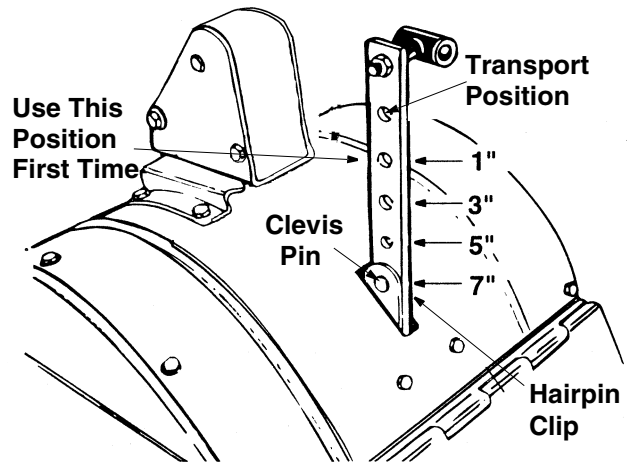
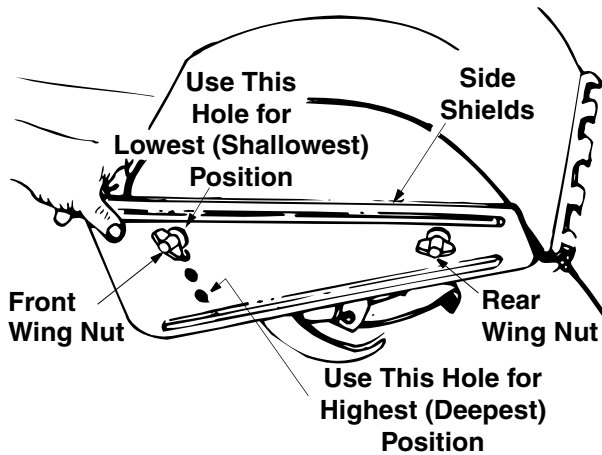

Figure 7
Figure 8
**WARNING:** When operating the tiller for the first time, use the depth stake setting that gives 1 inch of tilling depth (second hole from the top). See Figure 7.
Tilling depth is controlled by the depth stake which can be adjusted to five different settings. See Figure 7. Adjust the side shields as shown in Figure 8, as you adjust the depth stake. Be certain spark plug wire is disconnected and grounded against the engine.
- When using the tiller for the first time, use the second adjustment hole from the top (1" of tilling depth). See Figure 7.
- To adjust the depth stake, remove the clevis pin and hairpin clip. See Figure 7. Move the depth stake to the desired setting.
- To adjust the side shields, remove the front wing nut and loosen the rear wing nut. See Figure 8. Place side shield in position desired. Replace wing nuts and tighten securely.